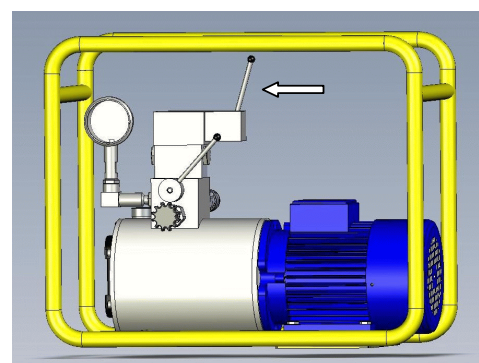

Figure 22
- ⑤ At this stage, invert the sense of the action lever to separate the pipes from the trimmer. *Figure 22.*